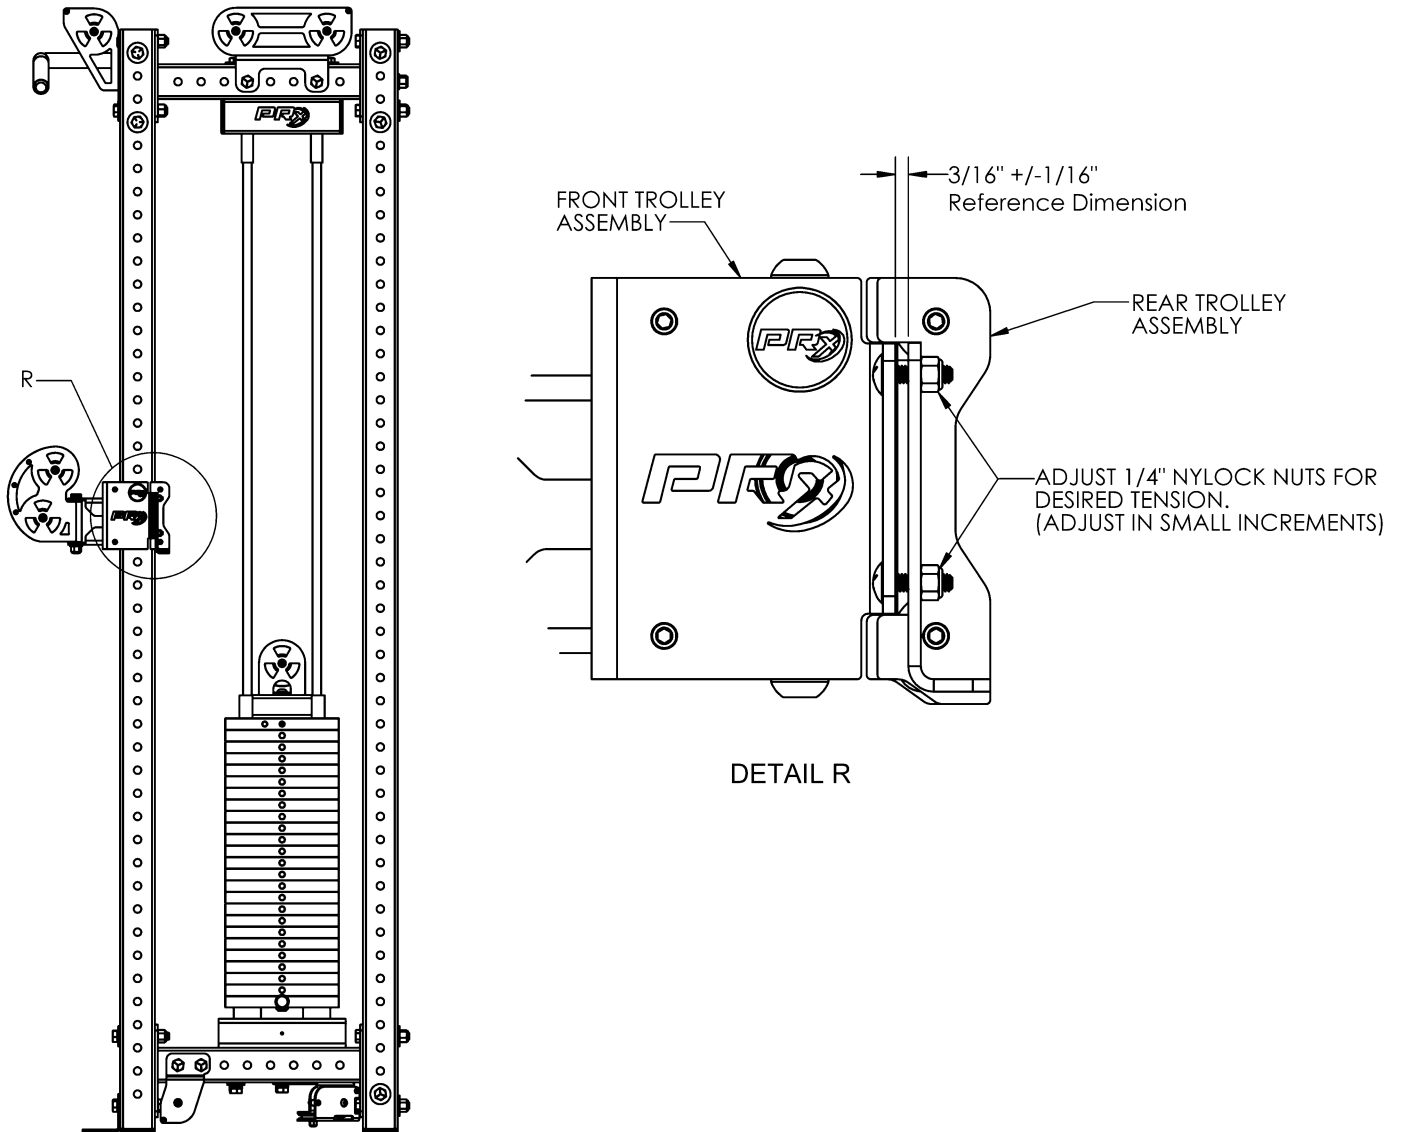

Figure 9
*NOTE: The gap between the front and rear assemblies (13 & 35) should be between 1/8"-3/16". **Figure 9, Detail R** Make sure that both sides have close to the same gap, and that none of the carriage bolts are loose to touch. **DO NOT OVER TIGHTEN***
3. Next, remove the Mag Pin (17), depress the T-handle to retract the spring plunger and move the trolley up and down. If it feels too loose, check the carriage for any looseness. If it doesn't move freely, loosen the carriage bolts slightly.